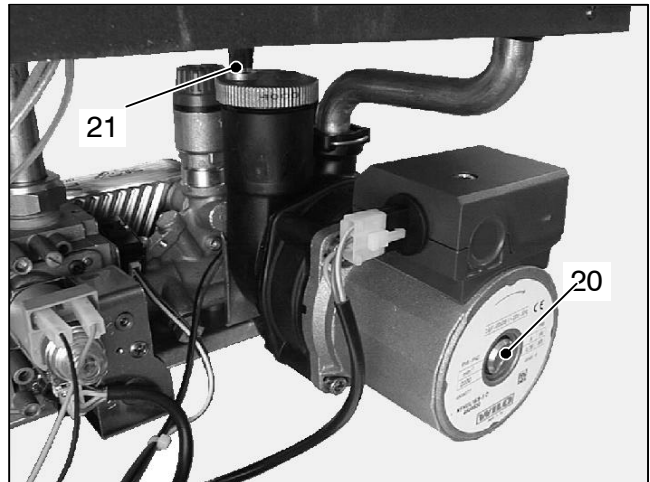

fig. 7.2
- 3 Unscrew the cap on the automatic air purger-valve 21 (fig. 7.2) one full turn and leave open permanently.
- 6 Purge the air from the pump by unscrewing the pump plug 20 (fig. 7.2); release the pump shaft by turning in the direction indicated by the arrow on the information plate.